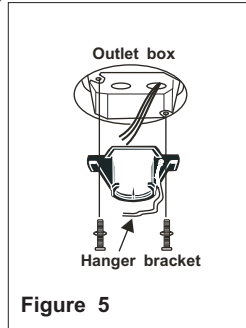

Figure 5
1. Secure the hanger bracket to the ceiling outlet box with the screws and washers provided with your outlet box. (Figure 5)